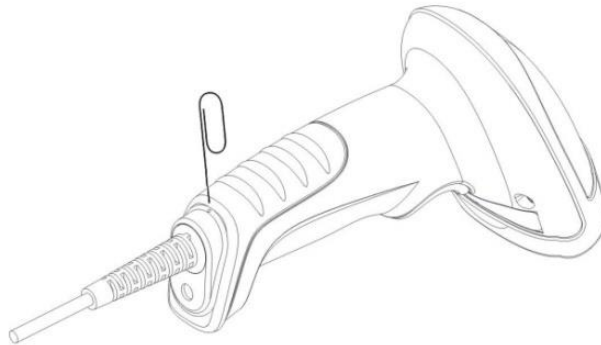

Fig. 1-6
2. Insert the needle into the disassemble hole (Fig. 1-6).